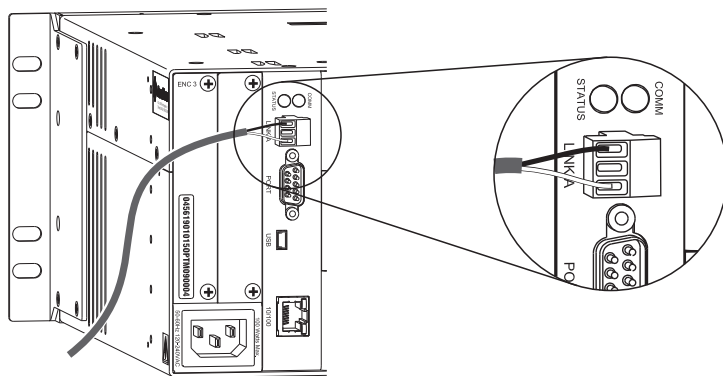

FIG. 10 Insert the wires into the XNNet connector on the CPU (Optima shown)
7. Insert the two wires from the CP-15 Remote into the two outer slots of the connector from the CPU, leaving the center slot empty (FIG. 10).